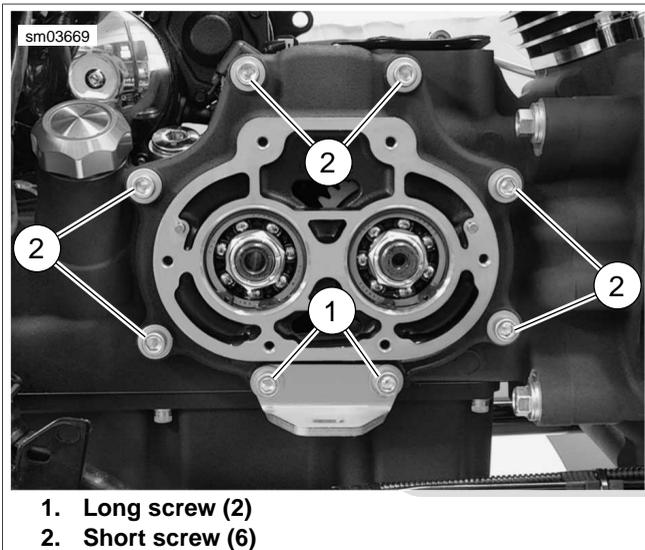

Figure 7-10. Side Door hardware
10. See Figure 7-10. Remove the transmission side door mounting hardware. Remove exhaust bracket, if equipped.